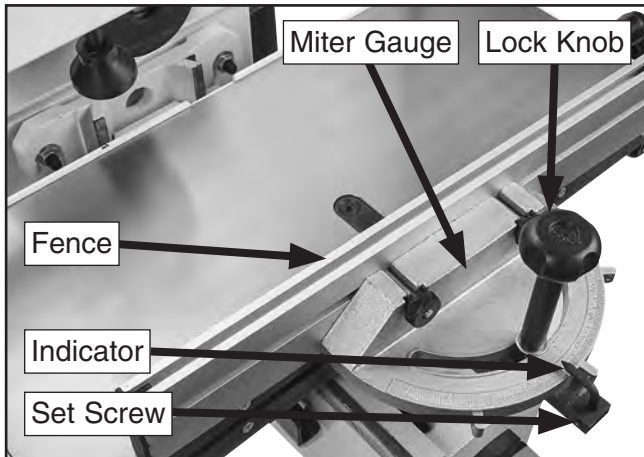

Figure 35. Miter gauge adjustments.
1. Loosen miter gauge lock knob (see **Figure 35**).
3. Loosen set screw in miter gauge bar and move indicator to align it with 90° mark on miter gauge scale (see **Figure 35**). Tighten set screw to secure setting.